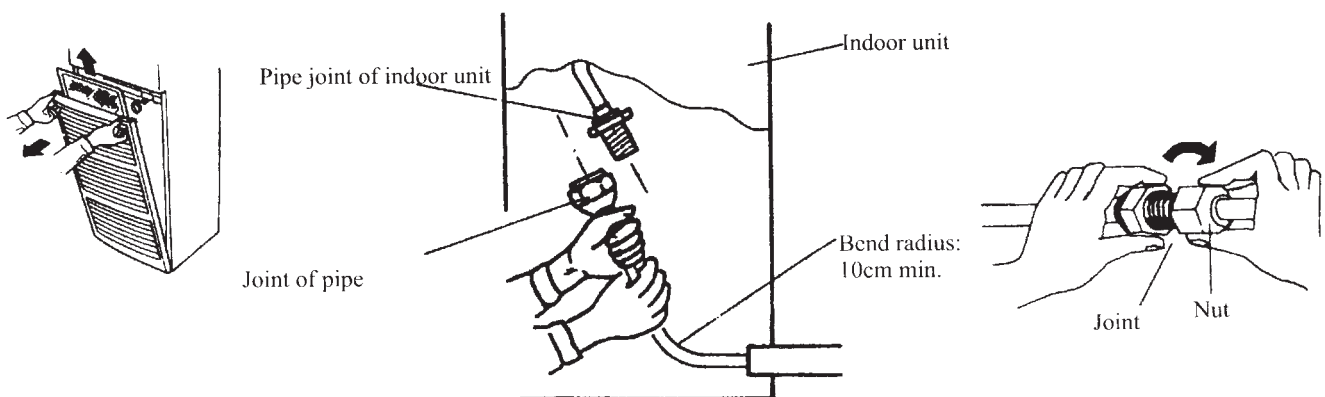

Fig. 23
- (1) Remove Air intake grille and lower front panel.
- (2) Thread the connecting pipe through the passing hole of indoor unit, and fit it with the indoor unit pipe joint.
- (3) Readjust shape of the pipe to make it easy for the joint, match center of both pipe joints and screw with hand for 3~5 circles (see Fig. 23).